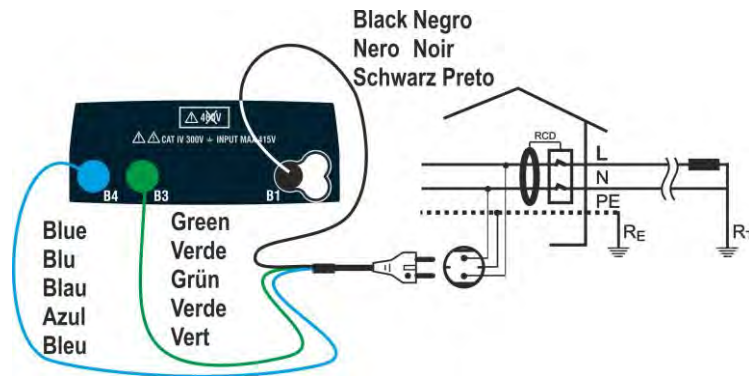
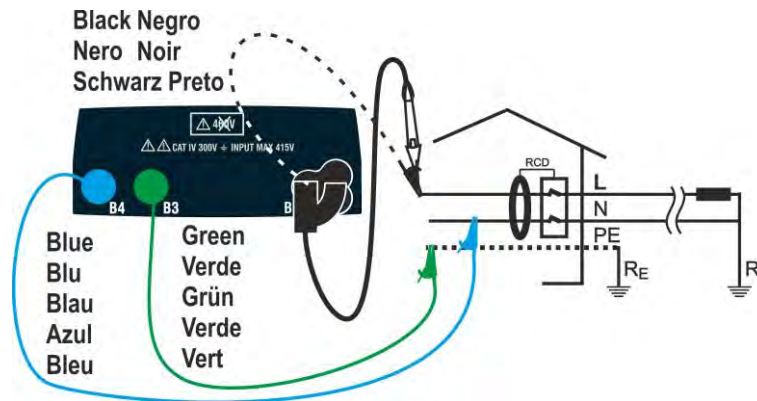
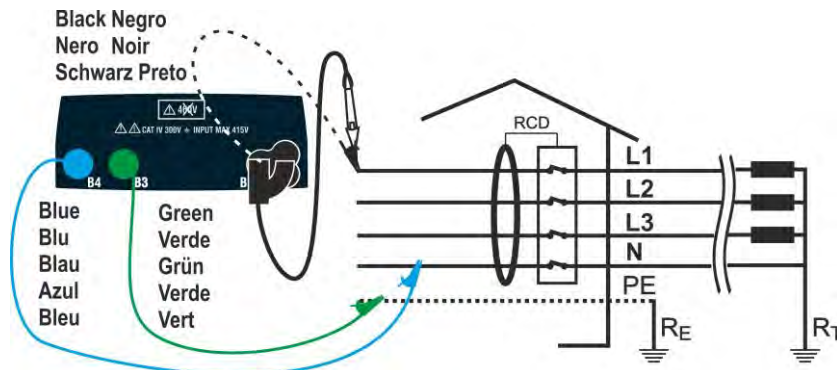
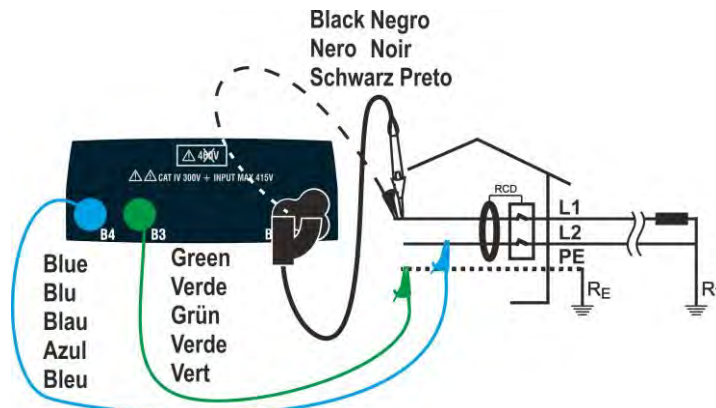

Fig. 19: Connection for single-phase L-N-PE system by means of mains plug
Fig. 20: Connection for single-phase L-N-PE system with single cables and remote switch probe
Fig. 21: Connection for three-phase L1-L2-L3-N system by means of single cables and remote switch probe
Fig. 22: Connection for L1-L2-PE split-phase system by means of single cables and remote switch probe
3. Insert the green, blue and black connectors of the three-pin plug cable into the corresponding inputs B3, B4 and B1 of the instrument. As an alternative, use the single cables and apply the relevant alligator clips to the free ends of the cables. It is also possible to use the remote switch probe by inserting its multipolar connector into the input B1. Connect the plug, the alligator clips or the remote switch probe to the electrical mains according to Fig. 19, Fig. 20, Fig. 21, Fig. 22, Fig. 23, Fig. 24.